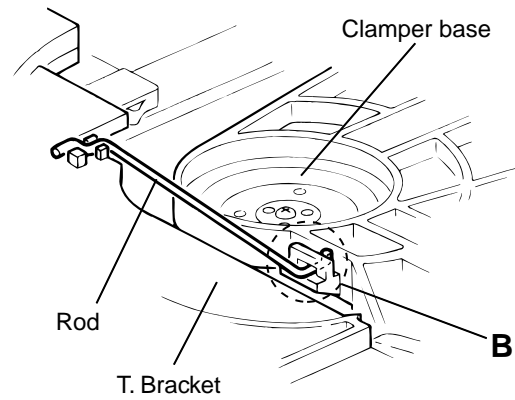

Fig.2
■ Removing the DVD tray assembly (See Fig.2~4)
6. From the T. bracket section and clamber base section "B", remove the edges fixing the rod. (See Fig.2)